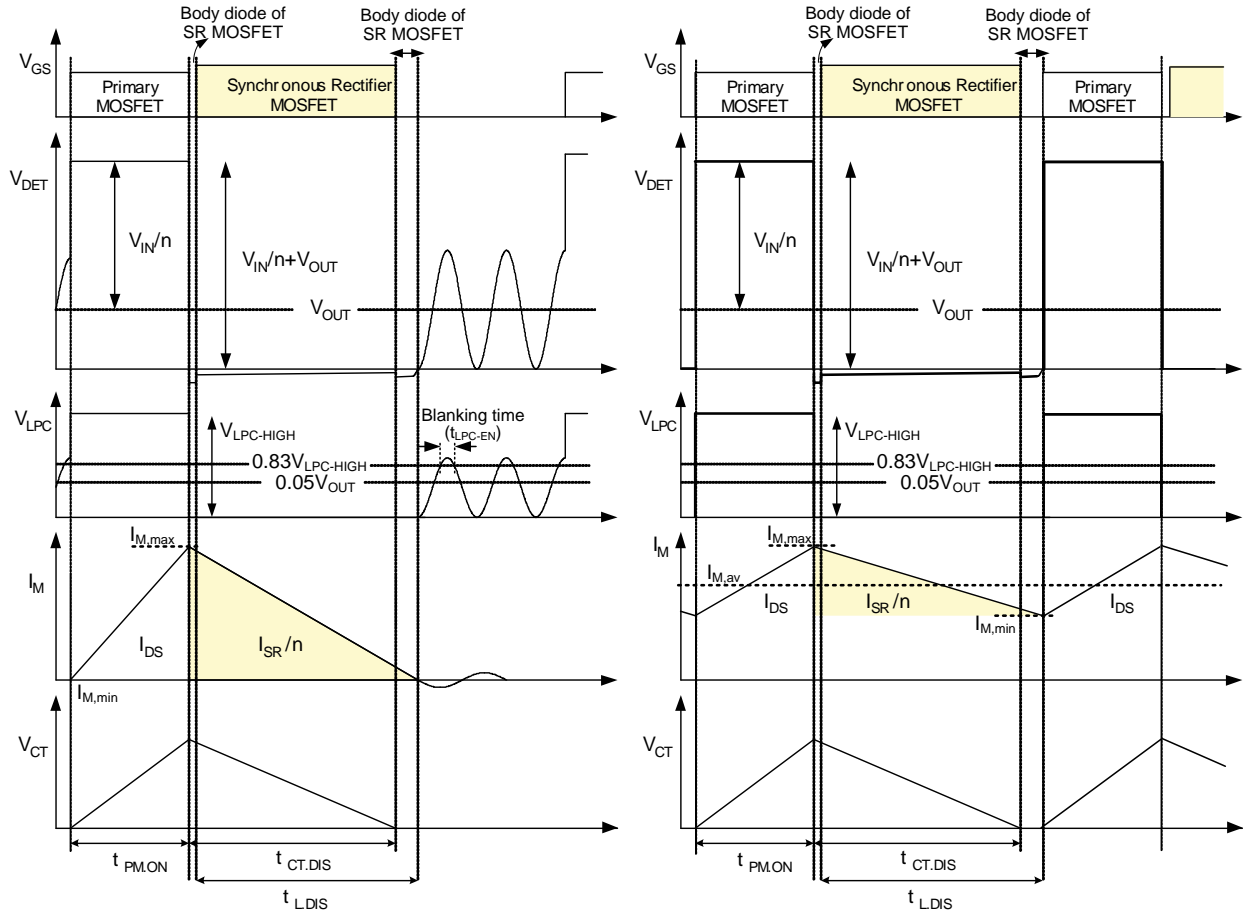
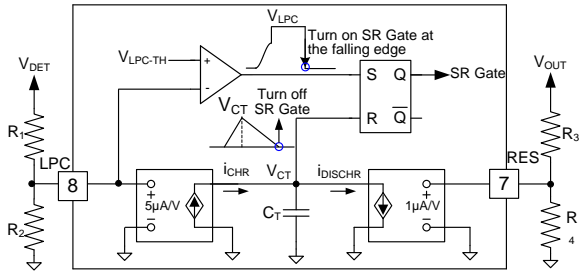

Figure 18. Typical Waveforms of Linear-Predict Timing Control in CCM and DCM/QR Flyback
Figure 19. Simplified Linear-Predict Block
The SR MOSFET turn-off timing is determined by linear-predict timing control and the operation principle is based on the volt-second balance theorem. The volt-second balance theorem states that the inductor average voltage is zero during a switching period in steady state, so the charge voltage and charge time product is equal to the discharge voltage and discharge time product. In flyback converters, the charge voltage on the magnetizing inductor is input voltage (V_{IN}), while the discharge voltage is nV_{OUT} , as the typical waveforms show in Figure 18. The following equation can be drawn:
FAN6204A uses the LPC and RES pins with two sets of voltage dividers to sense DET voltage (V_{DET}) and output voltage (V_{OUT}), respectively; so V_{IN}/n , $t_{PM,ON}$, and V_{OUT} can be obtained. As a result, $t_{L,DIS}$, which is the on-time of SR MOSFET, can be predicted by Equation (1). As shown in Figure 18, the SR MOSFET is turned on when the SR MOSFET body diode starts conducting and DET voltage drops to zero. The SR MOSFET is turned off by linear-predict timing control.
The linear-predict timing-control circuit generates a replica (V_{CT}) of magnetizing current of flyback transformer using internal timing capacitor (C_T), as shown in Figure 19. Using the internal capacitor voltage, the inductor discharge time ($t_{L,DIS}$) can be detected indirectly, as shown in Figure 18. When C_T is discharged to zero, the SR controller turns off the SR MOSFET.
Referring to Figure 18; when LPC voltage is higher than V_{LPC-EN} over a blanking time (t_{LPC-EN}) and lower than $V_{LPC-TH-HIGH}$ ($0.05 V_{OUT}$), then SR MOSFET can be triggered. Therefore, V_{LPC-EN} must be larger than $V_{LPC-TH-HIGH}$ or the SR MOSFET cannot be turned on. When designing the voltage divider of LPC, R_1 and R_2 should be considered as:
The typical waveforms of CCM operation in steady state are shown as Figure 18. When the primary-side MOSFET is turned on, the energy is stored in L_m . During the on-time of the primary-side MOSFET ($t_{PM.ON}$), the magnetizing current (I_M) increases linearly from $I_{M,min}$ to $I_{M,max}$. Meanwhile, internal timing capacitor (C_T) is charged by current source ($i_{CHR} - i_{DICH}$) proportional to V_{IN} , so V_{CT} also increases linearly.
In DCM / QR operation, when primary-side MOSFET is turned off, the energy stored in L_m is fully released to the output at the turn-off timing of primary-side MOSFET. Therefore, the DET voltage continues resonating until the primary-side MOSFET is turned on, as depicted in Figure 18. While DET voltage is resonating, DET voltage and LPC voltage drop to zero by resonance, which can trigger the turn-on of the SR MOSFET. To prevent fault triggering of the SR MOSFET in DCM operation, blanking time is introduced to LPC voltage. The SR MOSFET is not turned on even when LPC voltage drops below $0.05 V_{OUT}$ unless LPC voltage stays above $0.83 V_{LPC-HIGH}$ longer than the blanking time (t_{LPC-EN}). The turn-on timing of the SR MOSFET is inhibited by gate inhibit time ($t_{INHIBIT}$), once the SR MOSFET turns off, to prevent fault triggering.